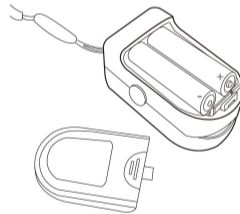

Figure 5. Batteries Installation
Step 1. Refer to Figure 5. and insert the two AAA size batteries according to the diagram on the unit.